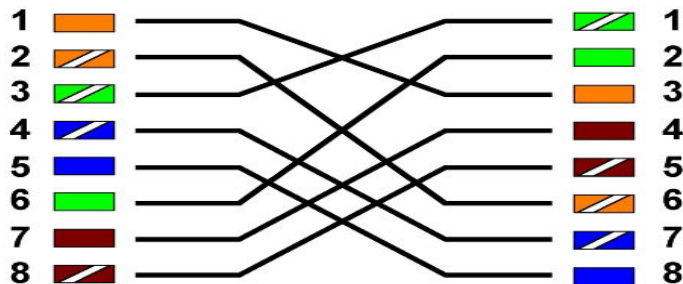

Figure 4 Network cables diagrams (Crossover and Straight)
- On most modern PC You can use Straight network cable for both connection types, for connection to hub or for direct connection to PC (see **Figure.4**)
- On some old PCs if you connect SDR to PC directly, you should use Crossover cable (see **Figure.4**)
- If you connect SDR to network router, hub or switch you should use Straight cable (see **Figure.4**).